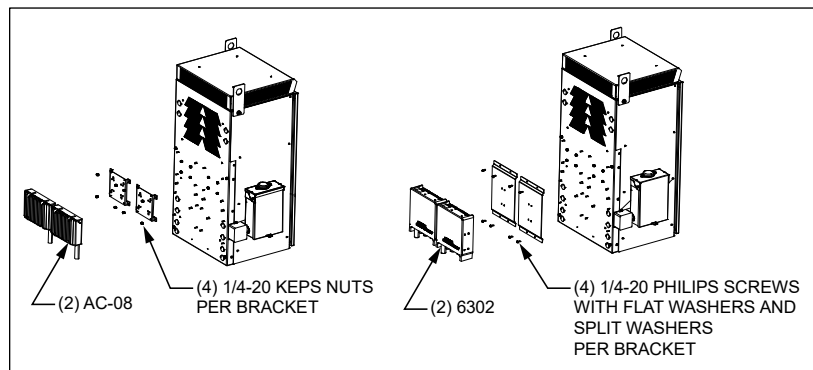

Figure 12 Power Supply Mounting
3. Mount the bracket/power supply assembly onto the back of the CUBE using the nuts removed previously (Figure 12).
4. Mount the bracket/power supply assembly onto the back of the CUBE using four 1/4-20 Philips screws with split washers and flat washers (Figure 12, hardware included with CUBE).